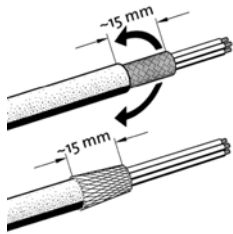

Fig. 14: Connecting cable shields to the EMC threaded cable connections (SC...FC WM)
**Connecting cable shields to the EMC threaded cable connections (SC...FC WM): see Fig. 14 - 16.**